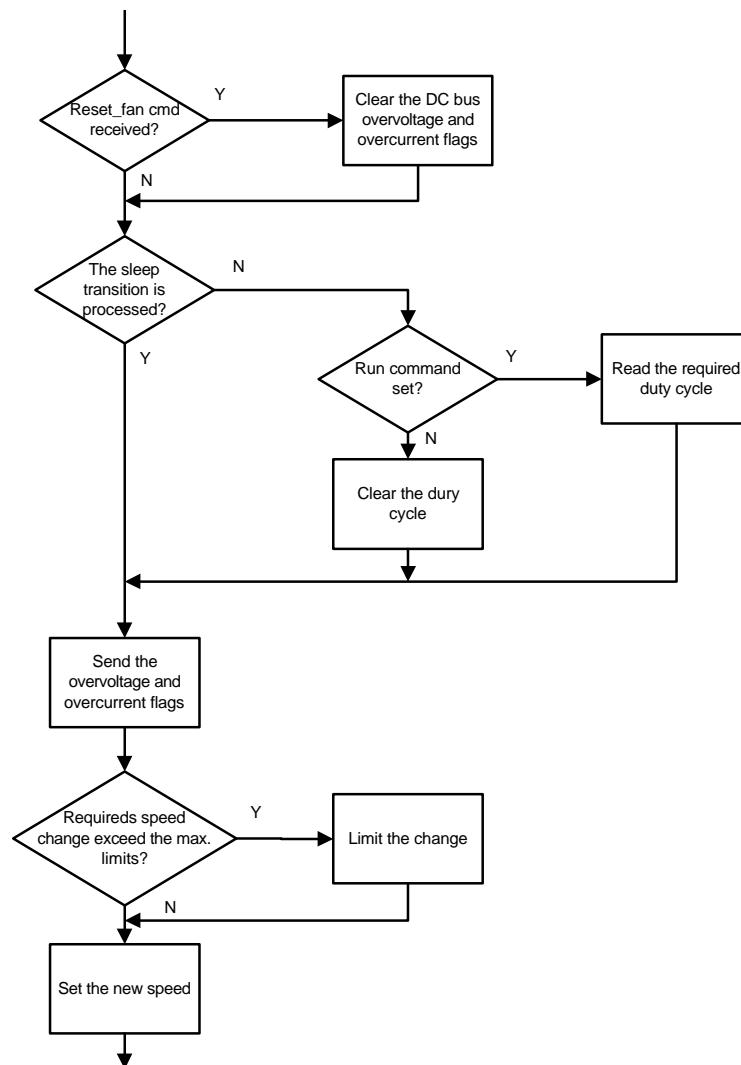

Figure 6: Process the LIN Response Subtask Flow Chart
- **Process the LIN response** — sends and receives messages to/from the master node and calculates the new BLDC motor speed. Also handles the limitation of BLDC motor speed change. The flow chart of this subtask can be found in Figure 6: